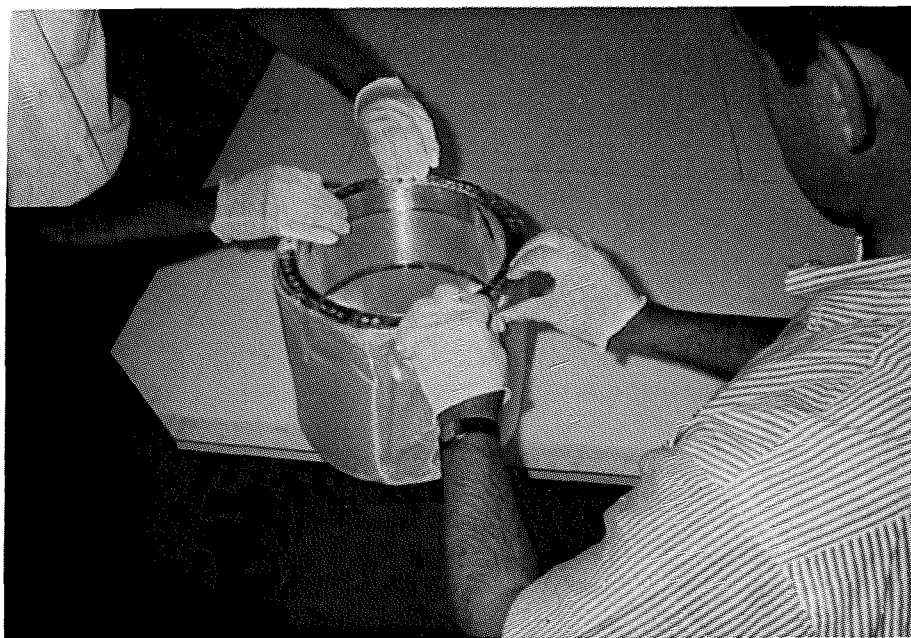

FIG. 16
STEP 11. Final tucking and straightening of the stowed insulation should be made before installing shroud on sensor assembly (Figure 16). This completes stowing procedure.